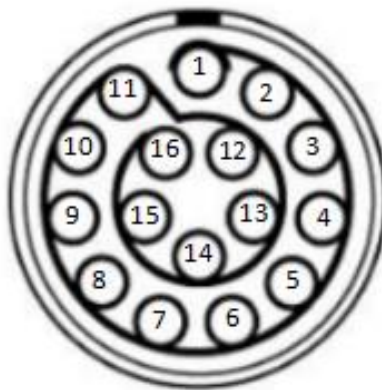

Fig. 4 Power supply and communication interface point number of integrated navigation
- a) A power supply and communication interface (EEG.1 T.316.CLN), whose contact sequence definition is shown in Figure 4;